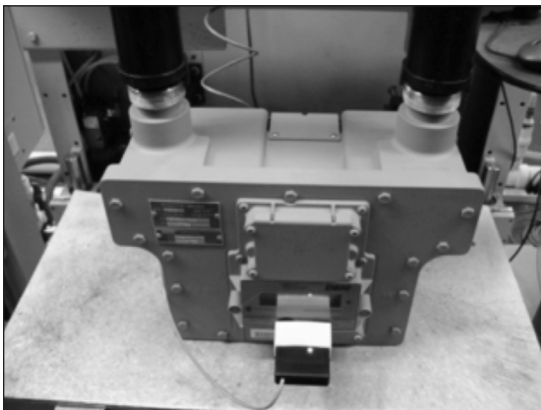

Figure 10.11 Example - IrDA Proving cable installed on meter
2. Install the “optic” IrDA test cable to the meter and the prover as shown in Figure 10.11. The black box should slide into the adapter for the IrDA slot on the bottom of the electronic index for the meter.